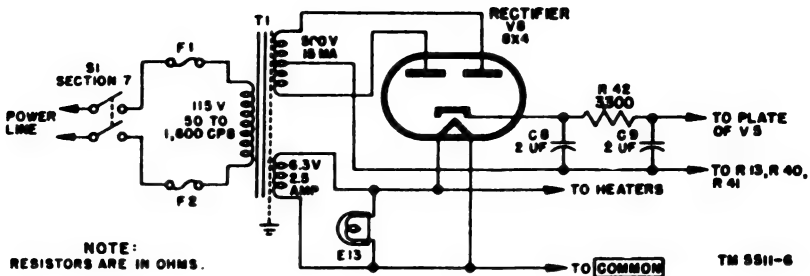

Figure 6. Power supply, simplified schematic diagram.
*a.* Figure 6 is a simplified schematic diagram of the power supply. It includes a conventional full-wave rectifier using a 6X4 tube (V8) to supply 310 volts at 12 ma for the amplifier plate supply. The power supply is designed to operate over a frequency range of 50 to 1,600 cps and takes approximately 20 va at 115 volts.